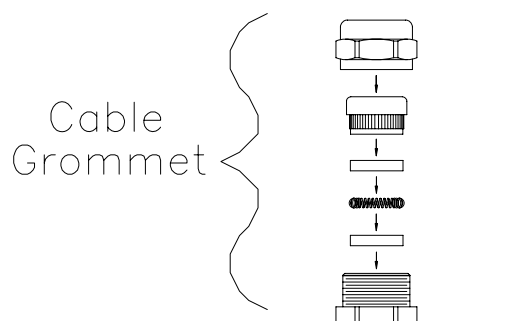

Figure 8: Cable Grommet
1. Remove the cable grommet hardware from the desired I/O connector housing (see Figure 8).
4. Slide the cable grommet hardware onto the cable in the order shown in Figure 8.